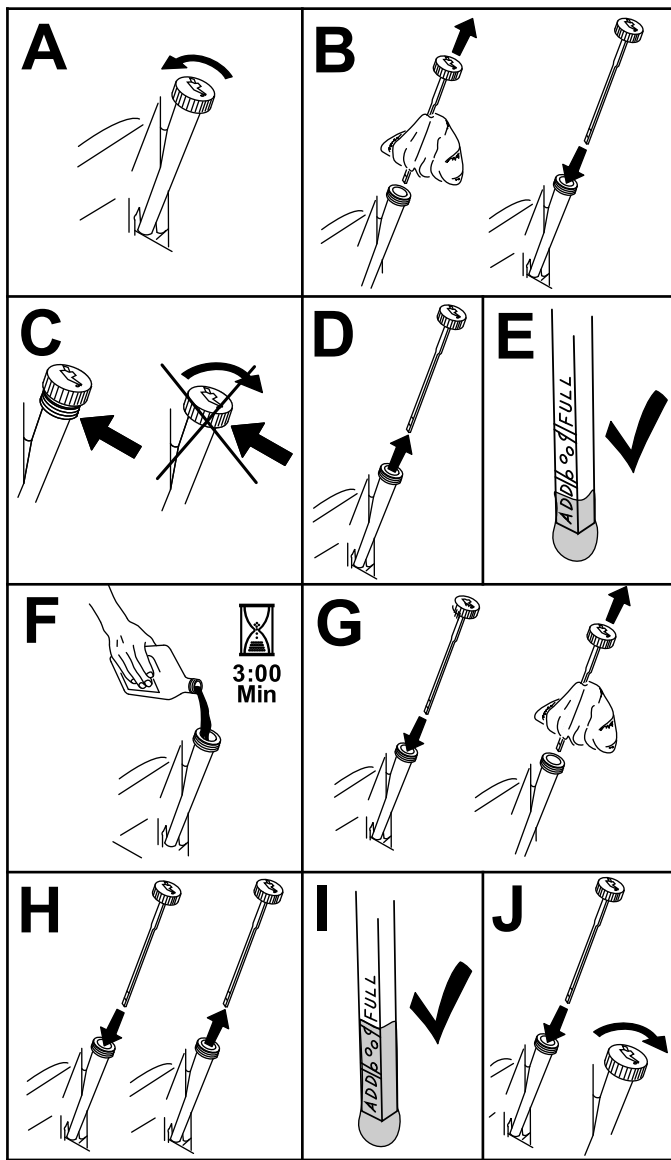

Figure 46
3. To keep dirt, grass clippings, etc., out of the engine, clean the area around the oil-fill cap and dipstick before removing it (Figure 46).